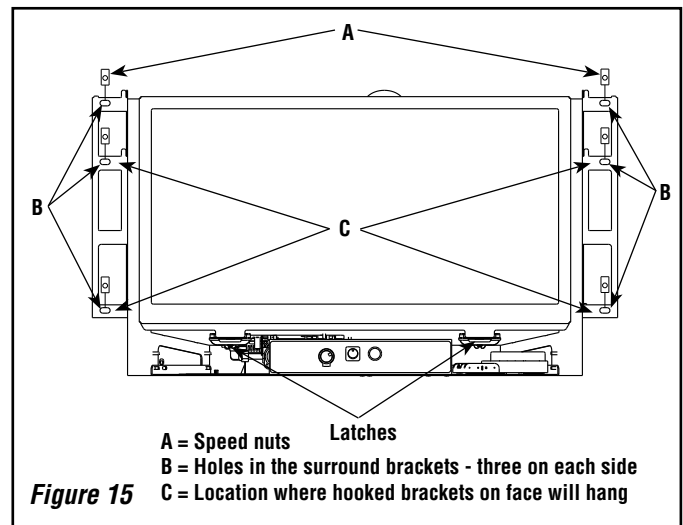

Figure 15
1. Remove the speed nuts (**A** in **Figure 15**) from the parts bag and install (with the flat surface forward) on the six holes in the surround brackets - three on each side of the insert (**B** in **Figure 15**). A flat bladed screwdriver may help in installing the nuts.
A number of different face finishes and styles are available for your appliance. The Arch face comes with a sight obstructor that must be installed prior to installing the surround panels and face. Instructions for installing the sight obstructor are included with the face. The faces come with hooked brackets. To install the face, hang the hooked brackets on the surround brackets (See **C** in **Figure 15**).